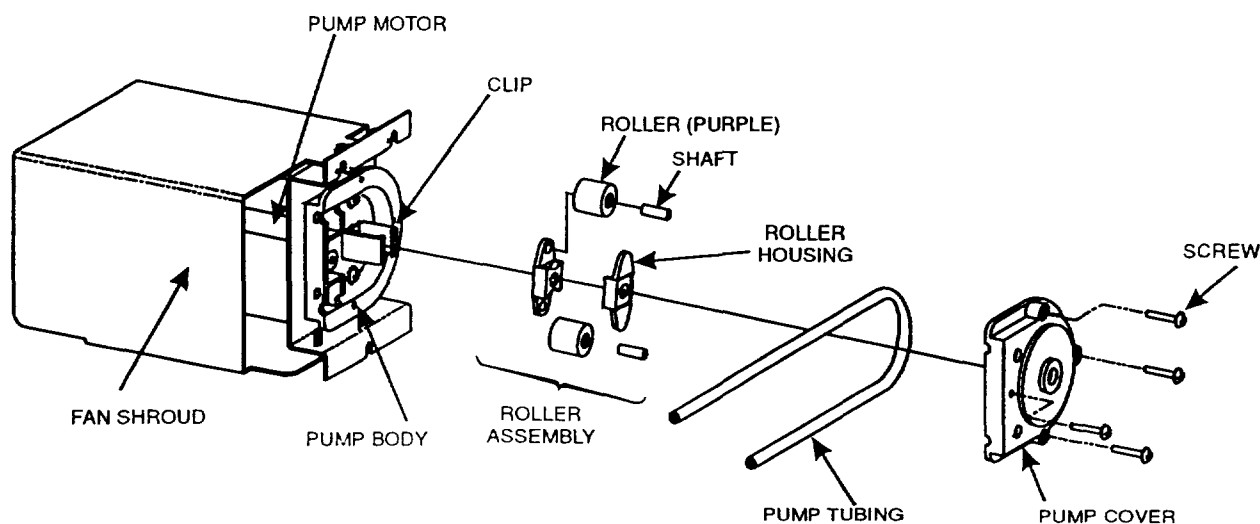

Figure 1
3. Remove the four screws holding the pump cover to the pump body (see figure 1).
8. Reassemble the roller assembly, using the new purple rollers (1). The roller housings are interchangeable, and it makes no difference which way the roller assembly faces on the pump motor shaft with the following exception: Make sure the flat sides of the holes in the roller housings line up. Otherwise, you will not be able to put the roller assembly back on the pump motor shaft.